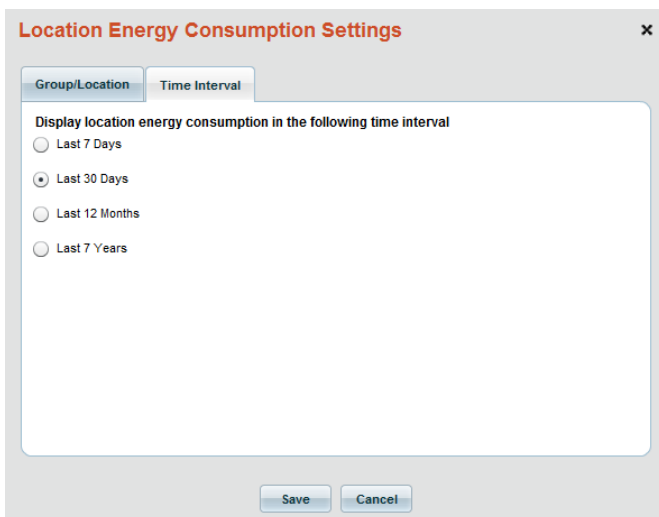

FIG. 128 Location Energy Consumption Settings dialog - Time Interval tab
3. In the **Time Interval** tab (FIG. 128), the default setting is **Last 30 Days**. This setting displays location energy usage data for the past 30-day period only. The other options on this tab are *Last 7 Days*, *Last 12 Months*, and *Last 7 Years*.